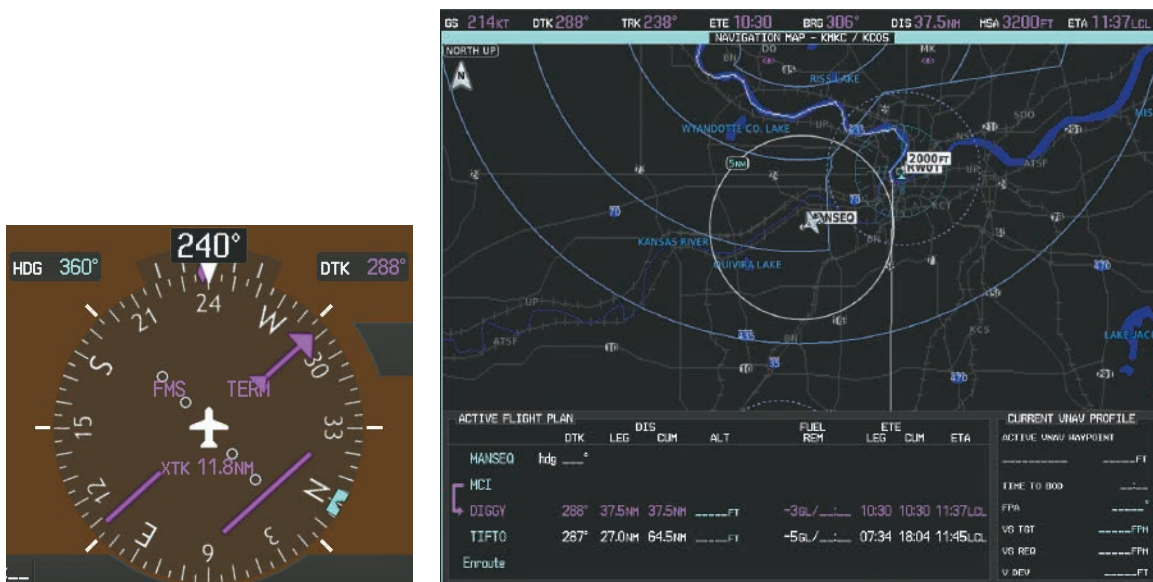

Figure 5-156 Assigned Heading of 240°
- 1) Prior to departure, the TIFTO2 departure, the airways, and the DBRY1 arrival at KCOS are loaded. See the Procedures section for loading departures and arrivals. Note the magenta arrow in Figure 5-156 indicating the active departure leg. After takeoff, ATC assigns a heading of 240°.
- 2) Figure 5-156 shows the aircraft on the assigned heading of 240°. 'TERM' (Terminal) is the current CDI flight phase displayed on the HSI indicating 1.0 nm CDI scaling.